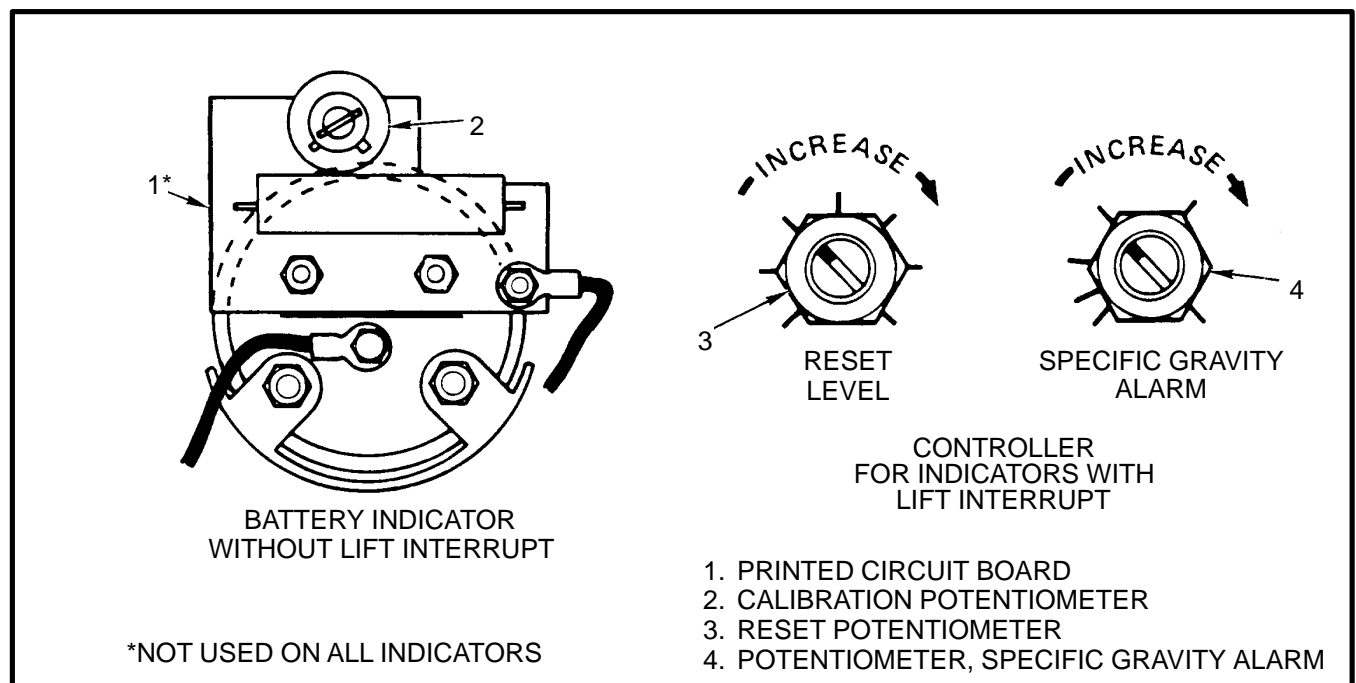

FIGURE 5. BATTERY INDICATOR, EARLY MODELS
BATTERY INDICATORS WITHOUT LIFT INTERRUPT, EARLY MODELS (See FIGURE 5.)
2. Find the screwdriver slot on the printed circuit board for the calibration potentiometer. See FIGURE 5.
BATTERY INDICATORS WITH LIFT INTERRUPT, EARLY MODELS (See FIGURE 5.)